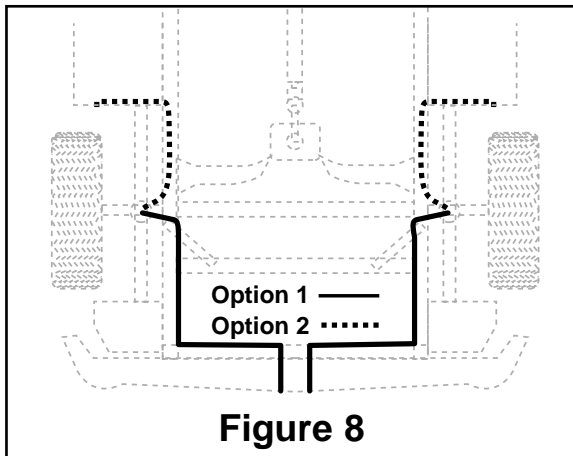

Figure 8
- E. Route air line along frame or under fender panel to desired inflation valve location (Figure 8). Attach air line to chassis with plastic straps or wire.